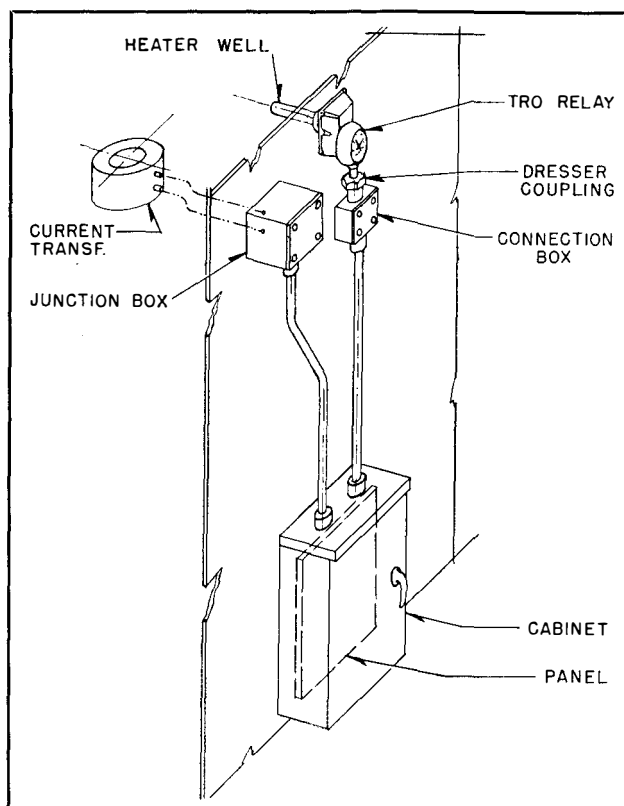

FIG. 3. TRO Relay Mounted on Transformer Wall.
The relay well is mounted on the tank wall and extends within the transformer (see Fig. 3) in the hot oil zone. The relay base is bolted to the well flange so that the relay can be removed without taking the transformer out of service. The contact and heater leads are brought from the relay case through conduit into the connection box where, to remove the relay, the leads must be disconnected.
Test switches are provided on the control panel in the control cabinet (see Fig. 3) so that the relay may be tested while the transformer is in service.
**Checking Relay with Heater and Well On A Transformer.** The calibration of the relay may be checked at the panel in the cabinet (see Fig. 3) when the transformer is in service and without disturbing the relay unless adjustments are required.